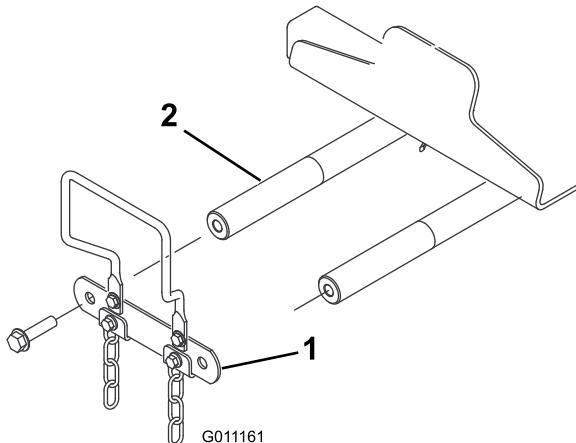

Figure 10
1. Remove the 2 bolts that secure the lift arm pivot shaft link to the lift arm pivot shafts, and remove and retain the pivot shaft link and bolts (Figure 10).